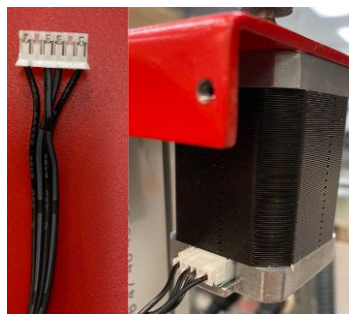
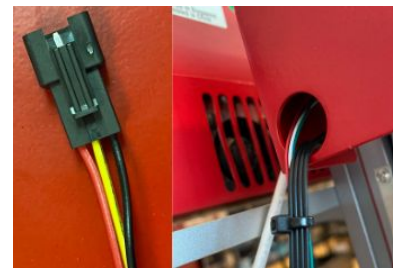

Fig.8
Fig. 9
11. Attach the motor wire to the motor.(see Fig. 8) & The sensory wire to the white wire(see Fig.9).